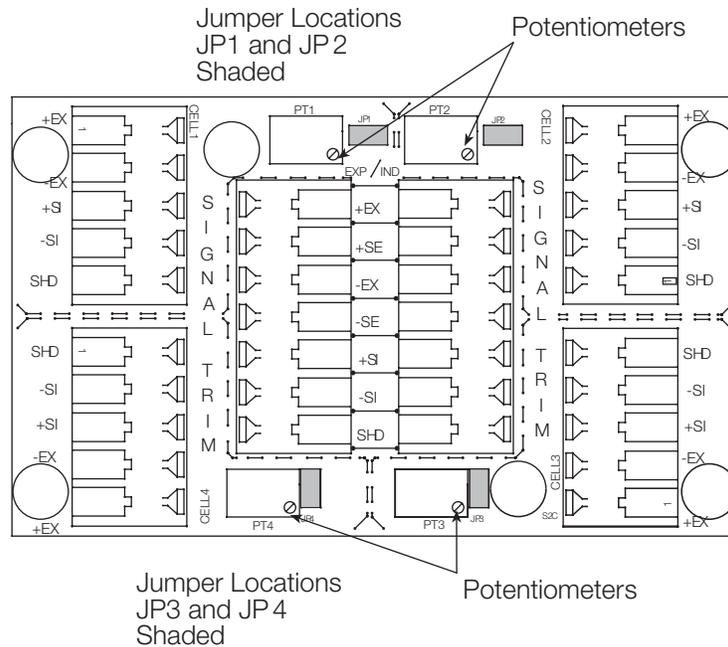

Figure 4. Signal Main Board
2. Make sure the jumpers are in place to enable trimming of the desired cells corresponding to each load cell in use. If you have any unused cells, remove the jumpers corresponding to those cells. See Figure 4 for the location of jumpers JP1, JP2, JP3, and JP4.
3. Set all potentiometers fully clockwise to give maximum signal output from each cell. (See the location of the potentiometers in Figure 4.)